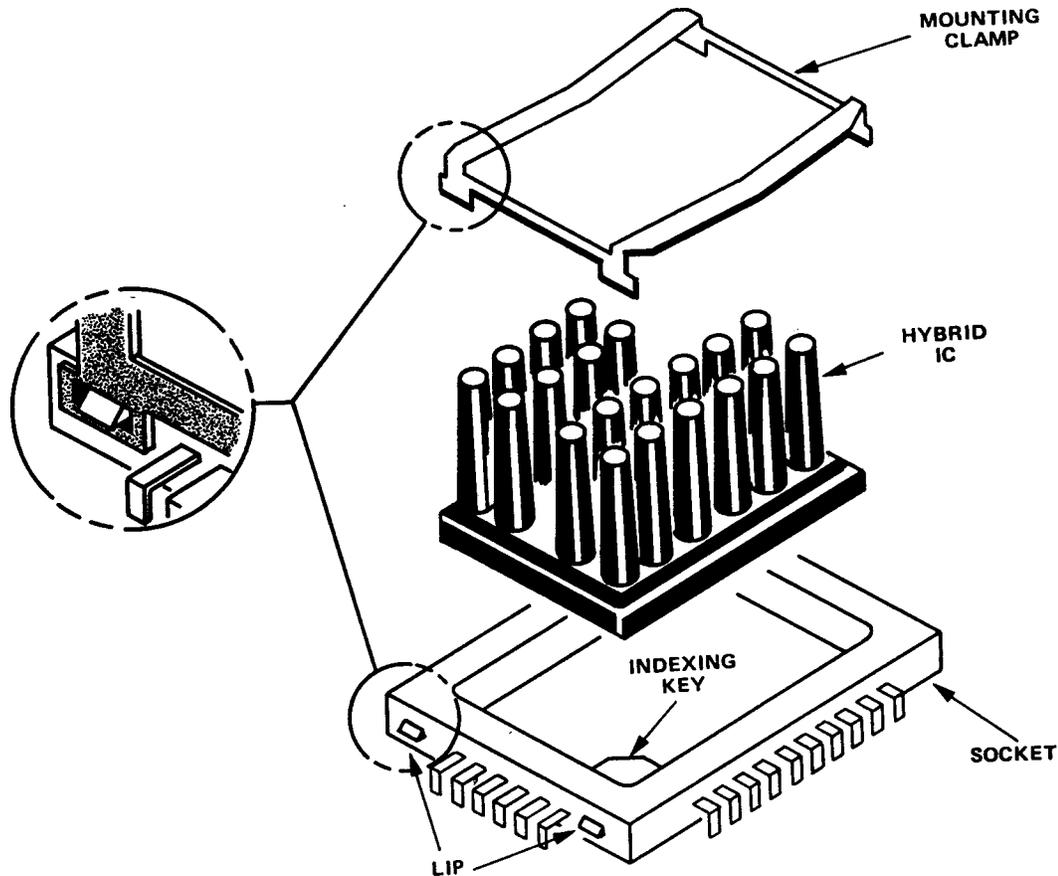

Figure 5-12. Hybrid IC removal.
(1) Remove the horizontal module.
(2) Remove the crt.
(3) Unplug the Graticule Illumination Board connector (beside the control potentiometer), and remove the board.
(4) Reinstall the board in reverse order.
q. Hybrid IC Removal and Replacement (Figure 5-12).